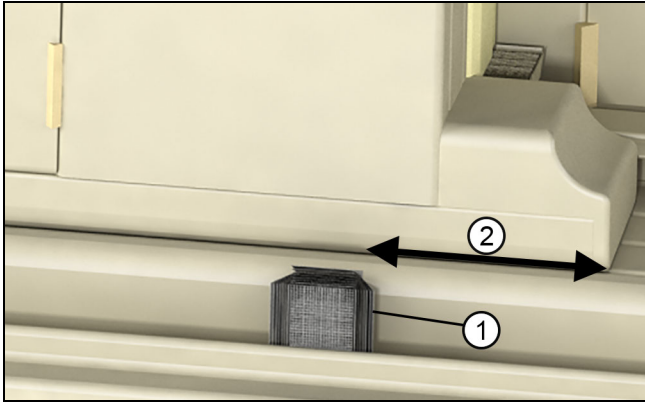

Figure 24
1. Place a dust block sitting vertically approximately 2" (51) from each end cap tight to the sill. See Figure 24.